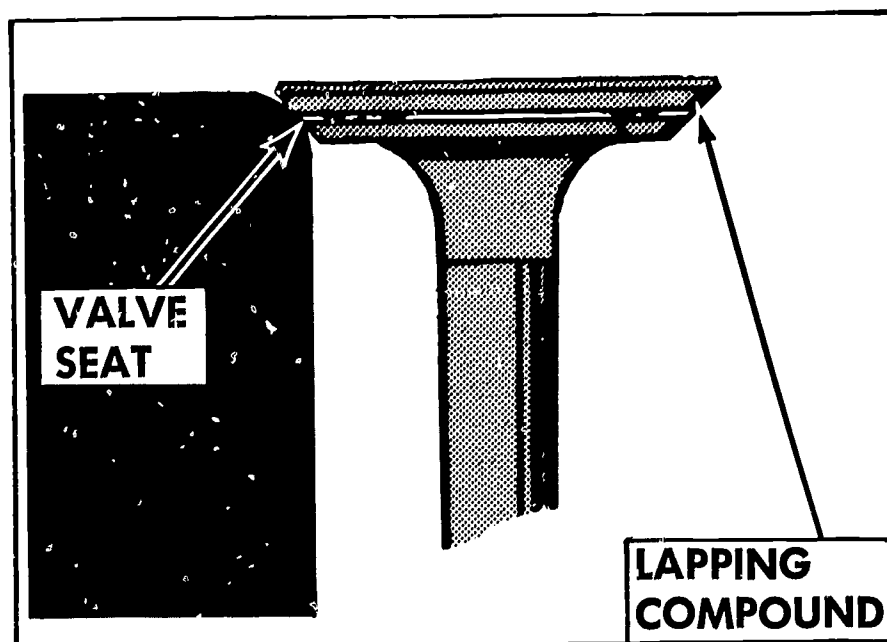

FIGURE 216. Valve face should contact the seat evenly and at the center.
5. *Check seating of the valve (Figure 216).*